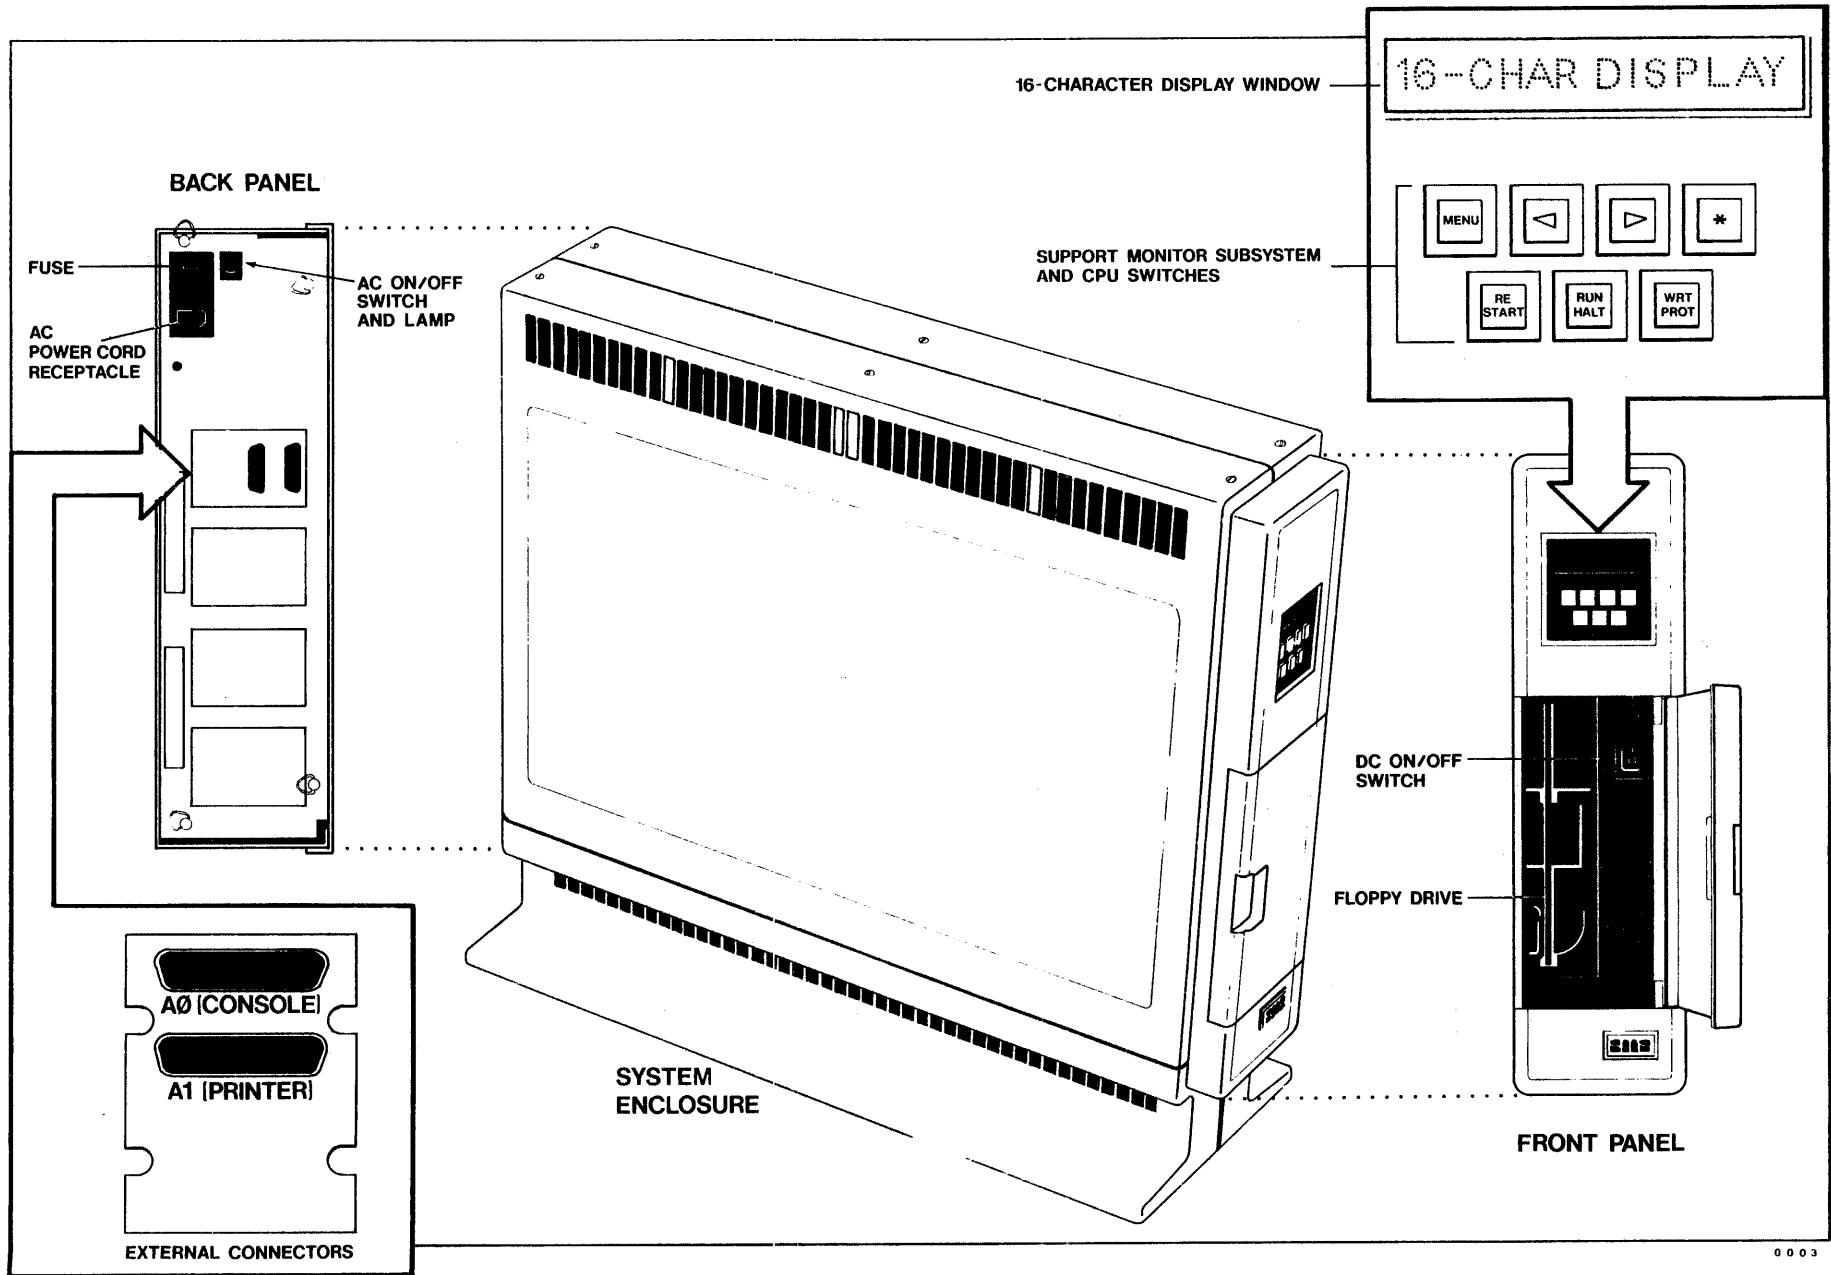

Fig. 1-3 Enclosure, front panel and rear panel
1. ENCLOSURE, FRONT PANEL AND REAR PANEL (Figure 1-3). The enclosure itself contains mounting brackets for the system components and two cooling fans. The front panel contains a 16-character vacuum-fluorescent display (VFD) for status-, message- or parameter-readout, and seven pushbutton switches that permit communication with the SENSE Monitor. A door in the front panel opens to allow access to the floppy disk drive(s) and to the DC ON/OFF switch.